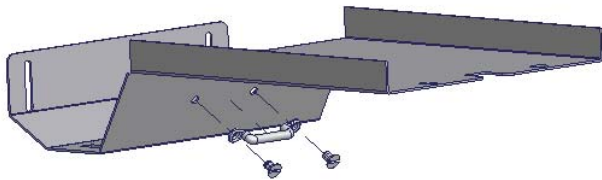

FIGURE 1
4. Using (2)10-32x1/2" Flat phillips machine screws and (2)10-32 Locknuts bolt the footman loop to the Lower Adjustment Piece as shown in Figure 1.
6. Using (2)10-32x1/2" Flat phillips machine screws and (2)10-32 Locknuts bolt the footman loop to the Lower Adjustment Piece as shown in Figure 1.